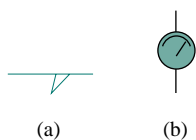

Figure D.11 Symbols for:
*PSpice* allows dc nodal analysis to be performed on sources with an attribute of the form  $DC = \text{value}$  and provides the dc voltage at each node of the circuit and dc branch currents if required. To view dc node voltages and branch currents requires adding two kinds of additional parts, shown in Fig. D.11. The symbol **VIEWPOINT** is connected to each node at which the voltage is to be viewed, while the symbol **IPROBE** is connected in the branch where the current is to be displayed. This necessitates modifying the schematic. For example, let us consider placing voltage **VIEWPOINTS** and current **IPROBES** to the schematic in Fig. D.8(c). To add **VIEWPOINTS**, we take the following steps: